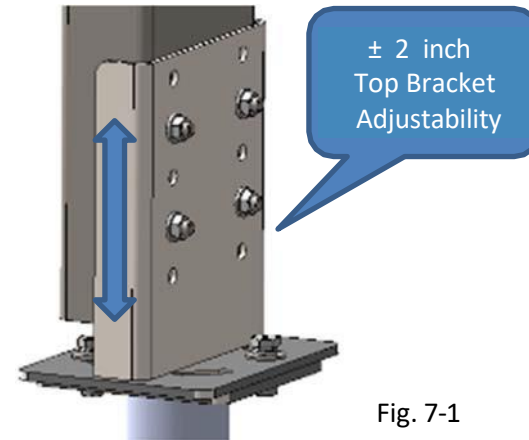

Fig. 7-1
- Foot Bracket Up – Down:  $\pm 2$  inches (51 mm) (Fig.7-1)